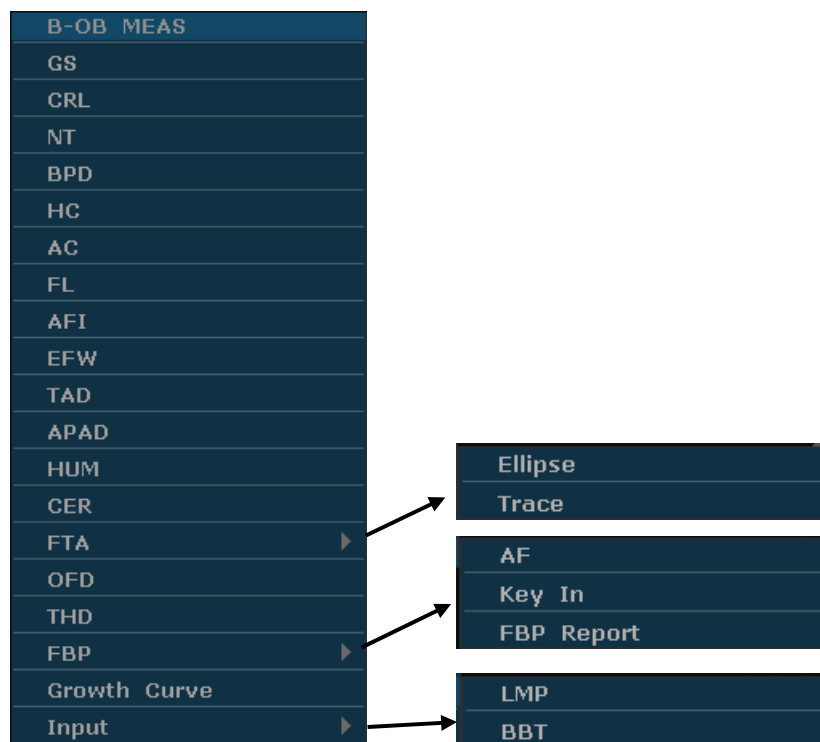

Figure 8-1 Obstetric Measurement and Calculation Menu in B mode
3. Press **Measure** to activate the application measurement function. The system displays the measurement menu as shown in Figure 8-1.